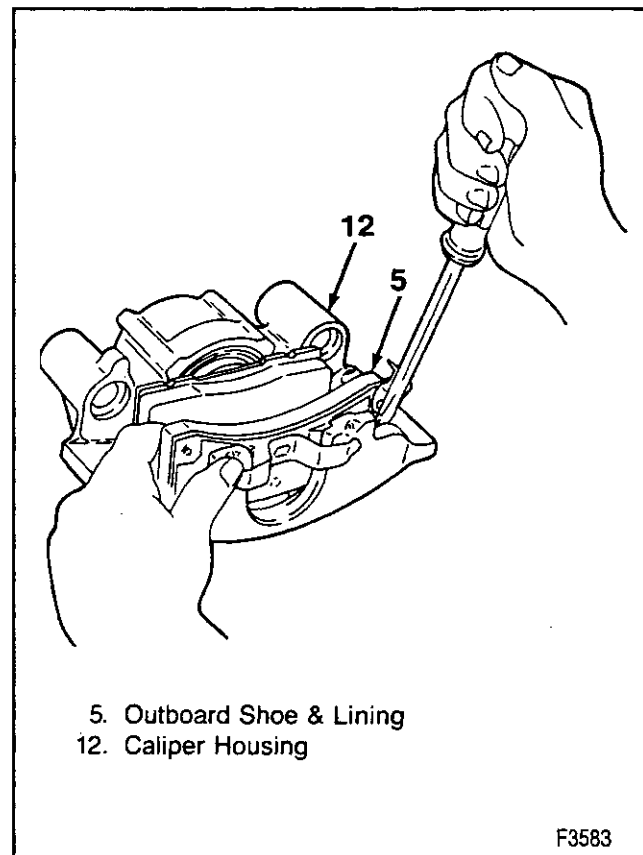

Figure 9—Removing the Outboard Shoe and Lining
2. Outboard shoe and lining (5) (figure 9).
3. Inboard shoe and lining (7).
4. Bolt boots (1).
5. Mounting bolt seals (4).
6. Bushings (3).